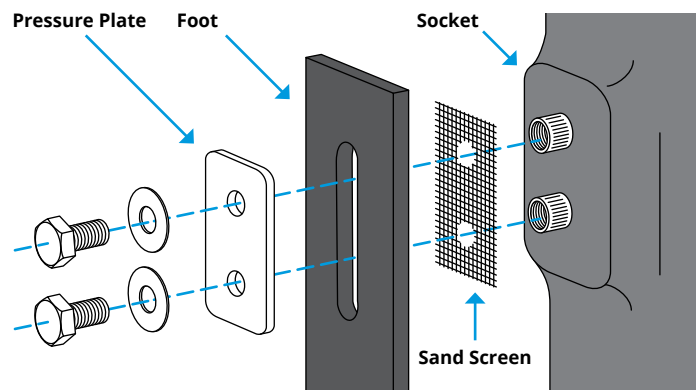

Figure 8
1. Use the provided bolts and pressure plate to attach the foot to the bracket. Tighten the bolts to 18 – 20 N·m. Thread-locker (one capsule provided) should be applied to both bolts connecting the foot to the plate (Figure 8). Be sure to check the torque of the bolts regularly throughout the life of the foot (a minimum of 3 – 6 months).